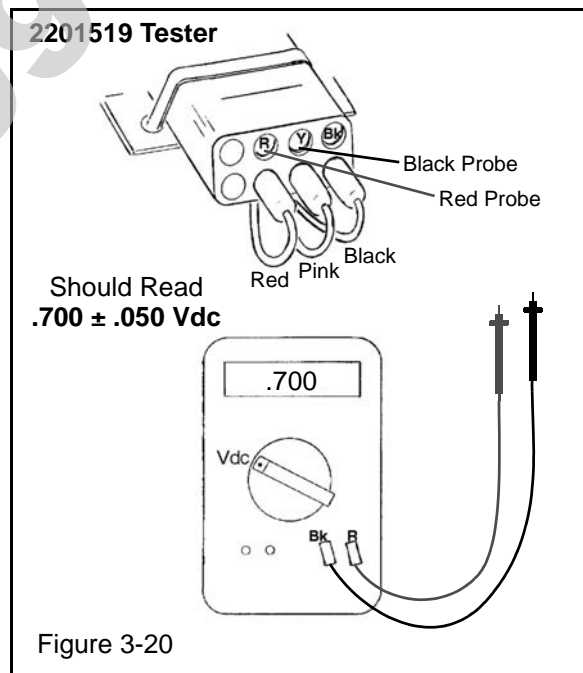

Figure 3-20
5. Set your voltmeter to read Vdc. Connect the red voltmeter probe into the “R” test port and the black voltmeter probe into the “Y” test port (see Figure 3-20).
2. Remove the (4) bolts retaining the intake plenum and throttle body.
6. Rotate the TPS until your voltmeter reads $.700 \pm .050$ volts (see Figure 3-20).